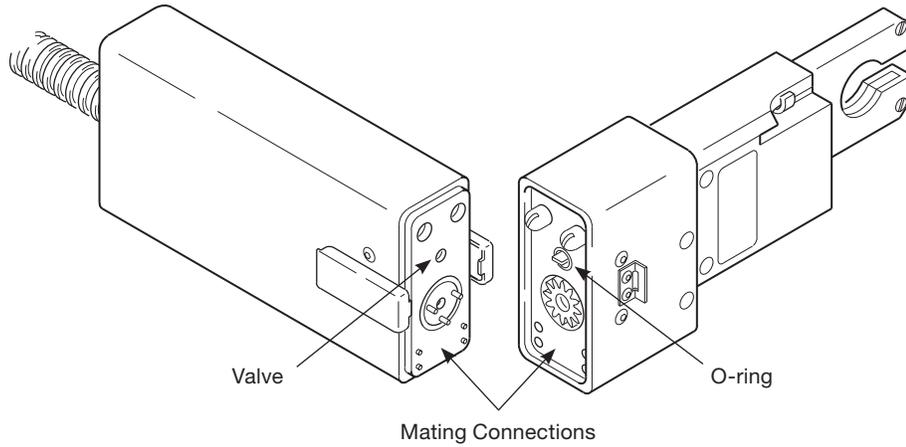

Figure 5 O-Ring and Mating Connections
2. Locate the shielding gas port on the micro weld head and verify that the O-ring is in place. See Figure 5. The O-ring seals the gas port. A valve in the port opens the gas flow through the motor module. The valve opens when the micro weld head is properly connected to the motor module.
3. Align the connecting surfaces of the micro weld head and motor module. See Figure 5.
The micro weld heads should not be started in any rotor position except fully homed. See Figure 5. Arc start in any other location may cause weld head damage.